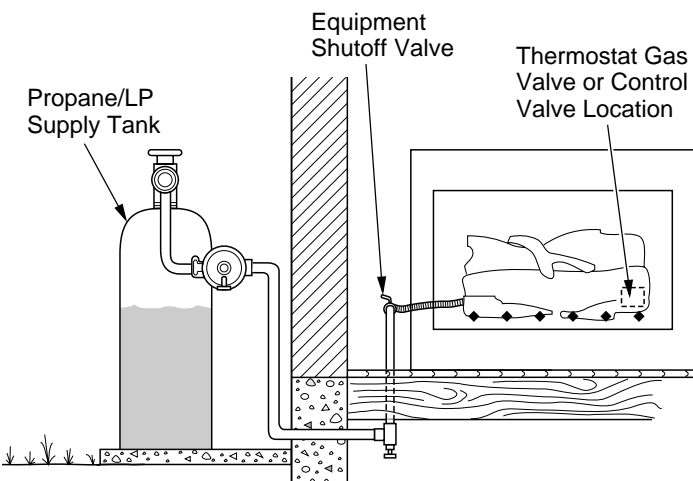

Figure 19 - Checking Gas Joints (propane/LP only)
3. Check all joints from gas meter to equipment shutoff valve for natural gas or propane/LP supply to equipment shutoff valve for propane/LP (see Figure 19, page 14). Apply noncorrosive leak detection fluid to all joints. Bubbles forming show a leak.
4. Check all joints from equipment shutoff valve to thermostat gas valve (Thermostat-Controlled Models), to control valve (Manually-Controlled Models), or to gas control (Remote-Ready Models)(see Figures 19 and 20). Apply noncorrosive leak detection fluid to all joints. Bubbles forming show a leak.